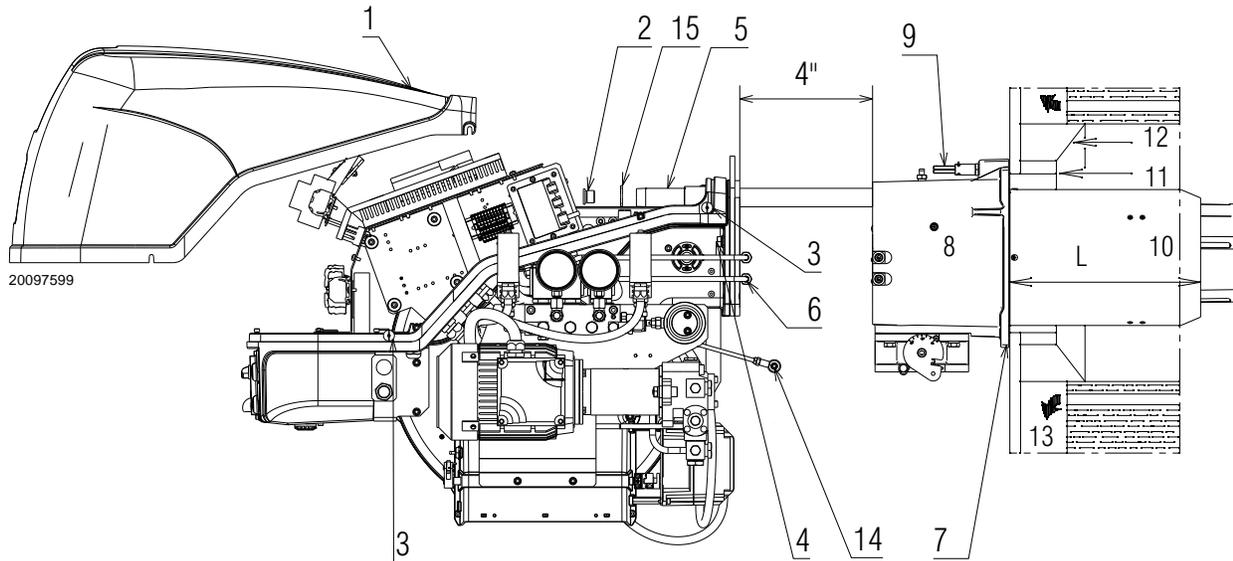
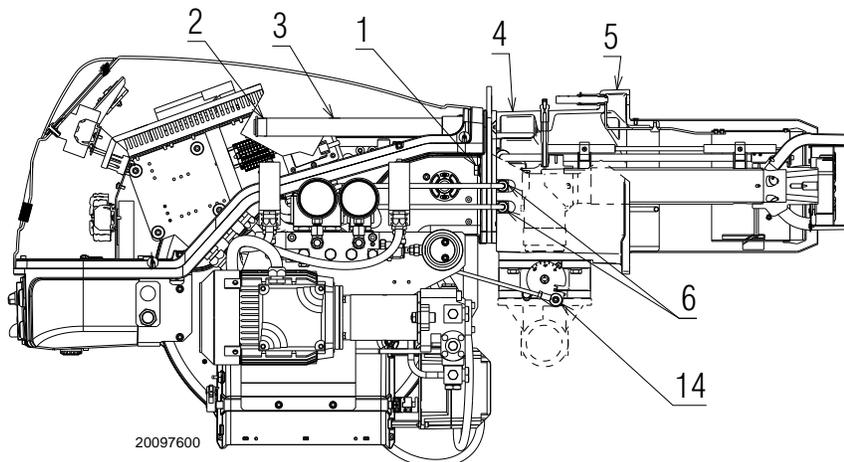

Fig. 12
Fig. 25
For boilers having a water-cooled front, the insulation 11)-12)(Fig. 12) is not required unless it is required by the boiler manufacturer.
Detach the combustion head from the burner, (Fig. 12):
- Refit the burner to the slide bars 3) (Fig. 25) at approximately 4" from the sleeve 4) - burner positioned as shown in (Fig. 12, page 20) - insert the ignition electrode cables.
- Slide the burner up to the sleeve so that it is positioned as shown in (Fig. 25);
- refit screws 2) (Fig. 25) on slide bars 3) including the safety plate 15) Fig. 12, page 20;
- connect the oil pipes again by screwing on the two connectors 6) (Fig. 12, page 20).